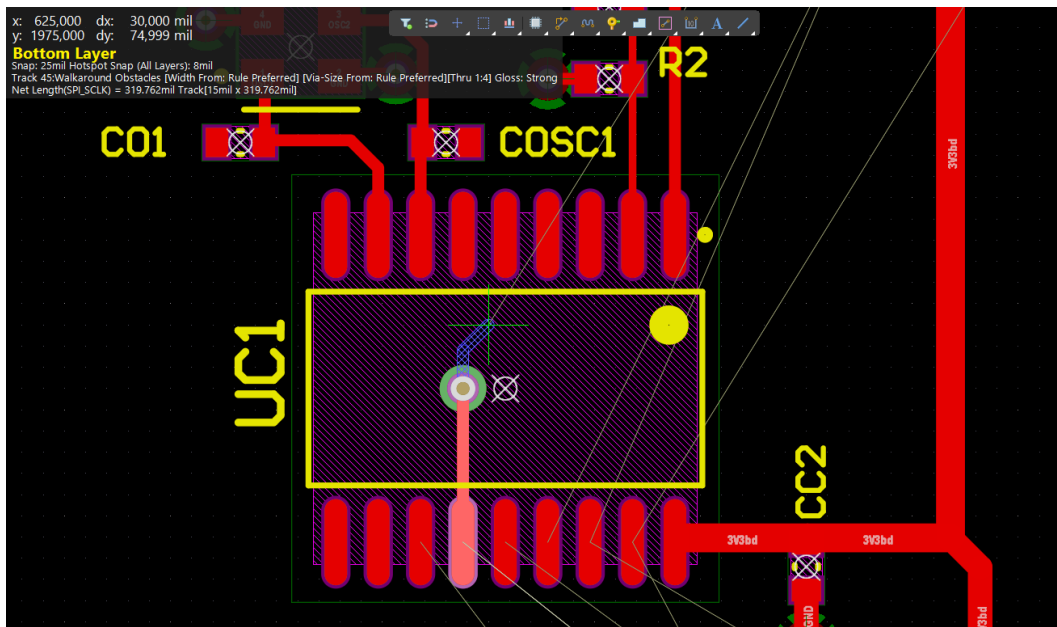

Figure 8. Changing Via Size while routing
- b) Start routing and hit the **+** key on the NumPad or press and hold **Ctrl+Shift** and spin the Mouse Wheel to have a Via on your cursor. If you do not have a NumPad, hit the **~ tilde** key (**~ tilde** key (US) or **Shift+F1** for other regions) and select **Next Layer**.
- d) Before placing the via, hit the **4** key to toggle through the three via sizes that you added in the design rule earlier. Left-click to place the via size of your choice as shown in Figure 8.